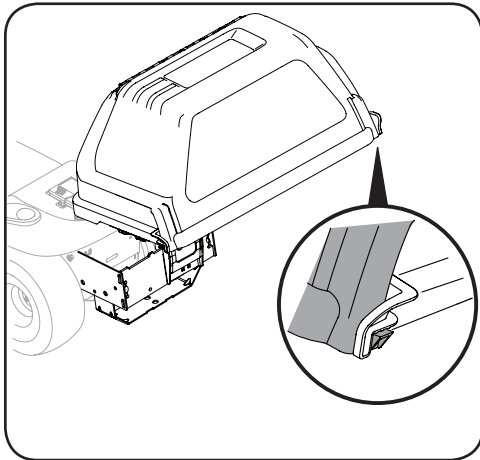

Figure 4-15
- Swing the upper grass catcher cover down to close the attachment, pushing in on the rear right-side and rear left-side tabs and lock them into place under the notches on each side. Ensure a secure, snug fit. See Figure 4-15.